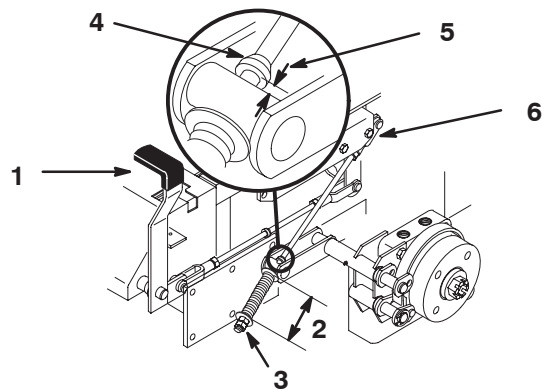

Figure 61
2. Measure the length of the spring. Measurement should be 2-3/4 inch (70 mm) between washers (Fig. 61).
3. If adjustment is necessary, loosen the jam nut below the spring and tighten the nut directly below the yoke (Fig. 61). Turn the nut until the correct measurement is obtained. Tighten the two nuts together and repeat on opposite side of unit.
- A. Measure the distance between the trunnion roller and the collar on brake rod. The measurement should be 3/16-1/4 inch (5-7 mm) (Fig. 61).
6. If adjustment is necessary, loosen the jam nut directly below the yoke. Turn the bottom rod until the correct measurement is obtained (Fig. 61). Tighten jam nut at yoke